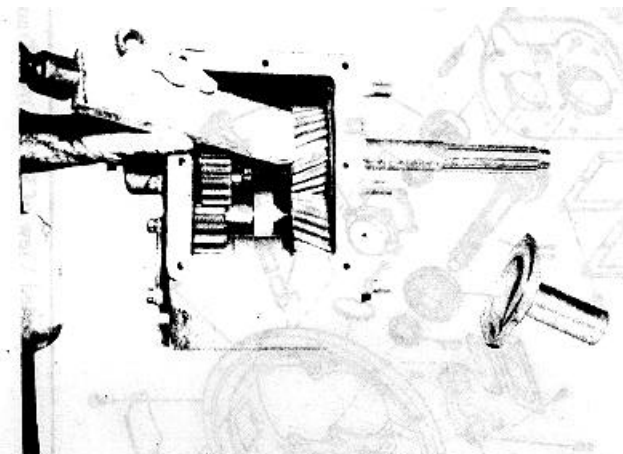

Figure 5. Knocking Out Drive Gear Assembly
- (1) Remove drive shaft flange.
- (2) Remove drive gear bearing retaining housing (item 3).
- (3) Drive gear bearing is slide fit with light interference to transmission case.
- (4) Remove transmission case cover (item 15).
- (5) A soft drift punch, brass or aluminum, can be used against drive gear (item 11) to knock out drive gear assembly from case. (See Figure 5.)
- (6) Main shaft pilot bearing (item 22) may stay in rear section of drive gear or may remain on main shaft (item 26).
- (7) Remove cover (item 21) from sliding yoke opening and cut safety wire on yoke at setscrew.